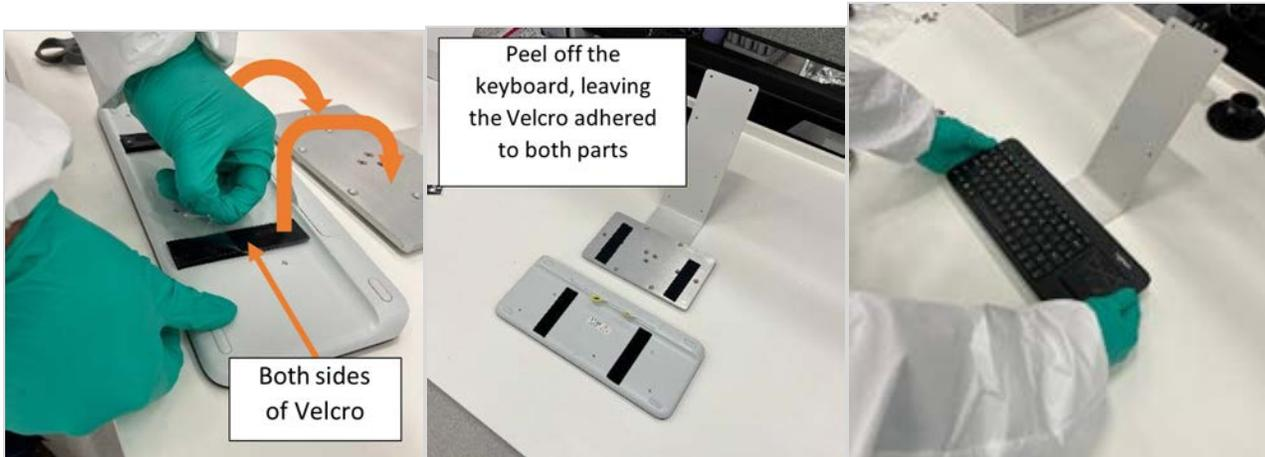

Figure 8: Mounting the Wireless Touch Pad Keyboard
- i. The wireless touch pad keyboard is connected to the tray below the AIO via Velcro on the back of the keyboard (Fig. 8).